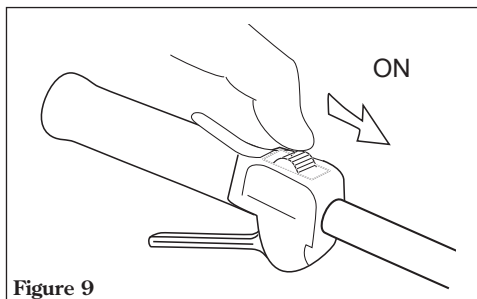

Figure 9
1. Slide the ignition switch to the "ON" position. See Figure 9.